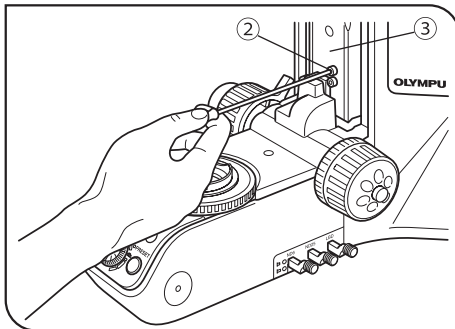

Fig. 16
3. Turn the coarse adjustment knob and raise the focusing block ③ to where the stopper screw ② in the arm becomes visible. (Fig. 16)
4. Using the Allen screwdriver, loosen and remove the upper stopper screw ②.
- © Store the remove stopper screw ② in a safe place so that it will not be lost, if needed again.